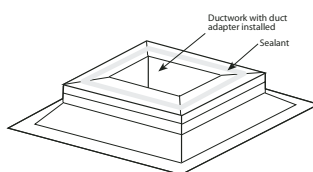

Figure 4 – Applying Sealant
- Before installing supply unit, apply a sealant around the perimeter of the supply duct to isolate the fan and minimize vibration. See Figure 4.